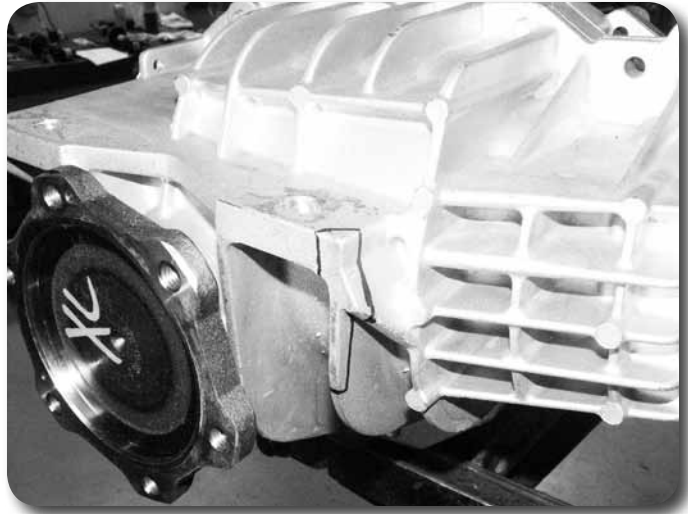

Figure 19
31. The small corner of the differential housing that will rest closest to the new weld-in plate needs to be slightly trimmed **Figure 19** to provided adequate clearance when installed. Only about 3/8" of material needs to be removed along the length of the corner. The trimming can be done with a reciprocating saw, hack saw or grinder. Measure from the top corner and mark 3/8" in both directions. Extended the cut lines down along the housing.